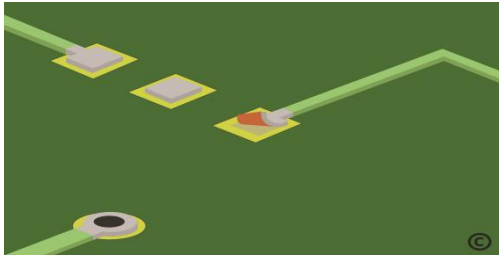

Fig. 8.1
1. The board area requiring repair is first cleaned in and around the pad/trace to be repaired. See Fig. 8.1